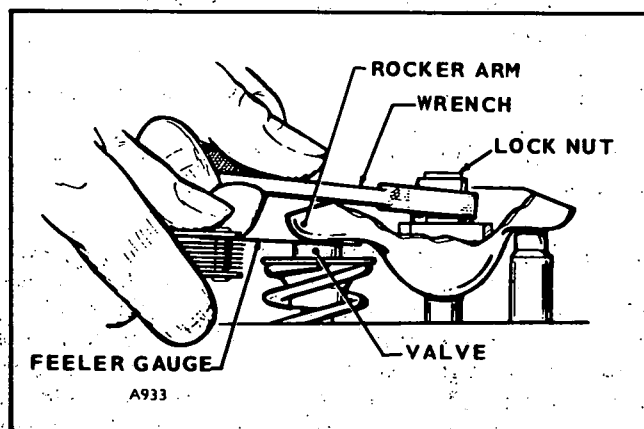

FIGURE 38. CHECKING VALVE CLEARANCE
4. After allowing engine to cool, check the clearance with a feeler gauge between the rocker arm and the valve (see Figure 38). Increase or reduce the clearance until the proper gap is established. Correct valve clearance is 0.011-inch intake and 0.008-inch exhaust.
9. Set the valve clearance. See Figure 38.